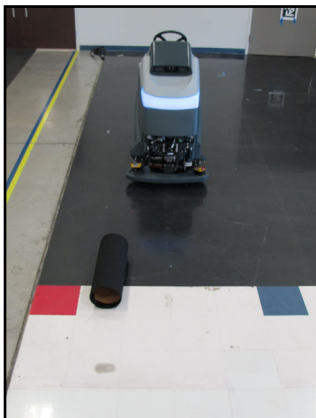

Figure 22: Right
8. Place the large target cylinder approximately 1 meter (3 feet) in front of the machine as shown in Figure 22: Right.